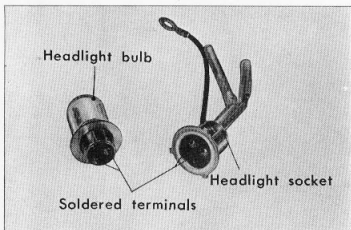

Figure 5-32. Soldered terminals
- (2) Poor socket contact
- (3) When poor contact is caused by corrosion, polish the contacts with a file or sand paper. (Fig. 5-32)
- (4) Broken wiring